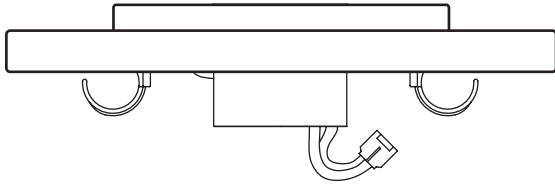

**Figure 8C - Attaching the blade iron to the fan**
4. For each blade, insert one blade mounting screw through the blade iron as shown in Figure 8C, and attach lightly to the fan. Insert the second blade mounting screw, then securely tighten both mounting screws.